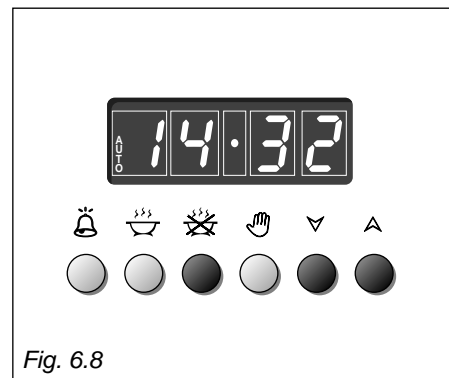

Fig. 6.8
2. Set the end of the cooking time by pushing the  button and the  button to advance, or  to go backwards if you have passed the desired time (Fig. 6.8).